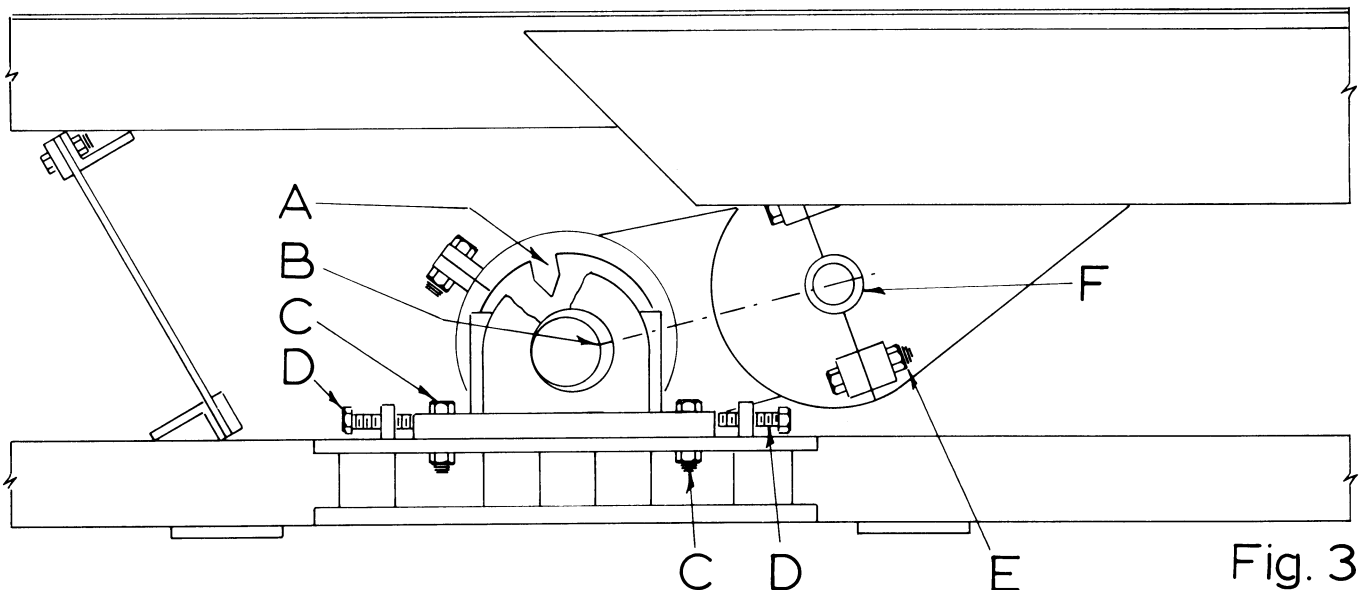

Fig. 3
3. Place "Funnel" (B) on end of eccentric housing (C). This will prevent cutting of rubber on bushing when pressed into position.
4. Replacement bushing (A) must be coated liberally with castor oil or linseed oil.
5. With hydraulic press, press bushing (A) through funnel (B) into eccentric housing (C).
6. Follow assembly procedure of eccentric housing after bushing replacement at this point. (Fig. 3)
ASSEMBLY OF ECCENTRIC HOUSING AFTER BUSHING REPLACEMENT (See Fig. 3)